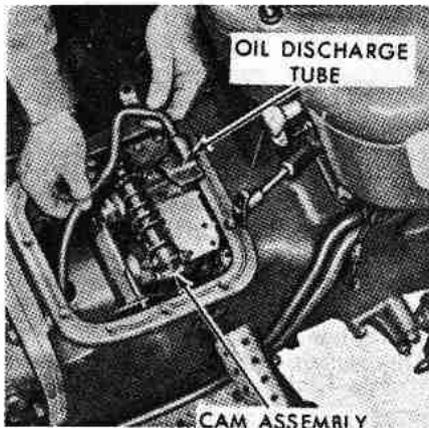

Fig. 246—Removing oil discharge tube on models 2000, 3000 or 4000.
**251. R&R CONTROL VALVE ASSEMBLY.** With transmission top cover removed as outlined in paragraph 247, refer to Fig. 246 and proceed as follows: Remove the three cap screws retaining the oil discharge tube manifold and either remove the tube assembly from transmission or move it to rear out of way. Tie the inching pedal down. Remove the two cap screws retaining safety switch bracket, then remove switch and bracket as an assembly. Remove the remaining two valve assembly retaining screws and pry or bump valve assembly loose from gasket. Remove valve assembly from top of transmission. Note: Do not remove the cap screw at left rear corner of valve assembly near the camshaft; this cap screw helps retain valve upper half to lower half only.